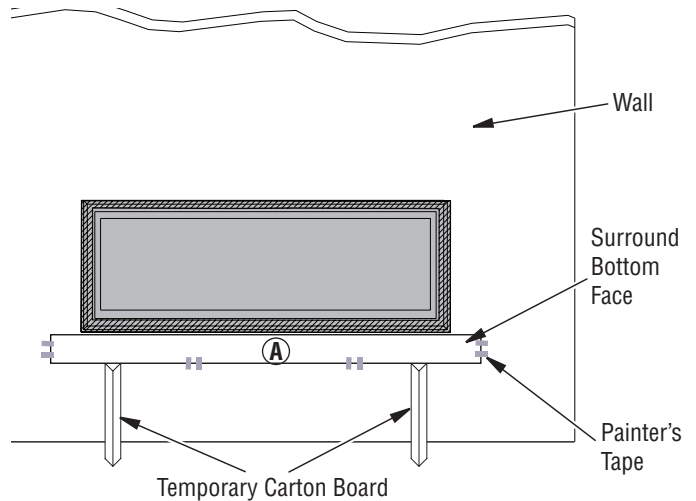

Figure 2 - Bottom Surround Face Installation
3. Install bottom surround panel centered with the fireplace onto the wall and flush with bottom edge of screen barrier (see Figure 2).
4. If additional support is needed, then wedge temporary carton board underneath bottom surround panel (A) and use painter's tape (not supplied) to hold the face to the wall. **Note:** Temporary carton board can be cut to desired length and is used to prevent surround panel from sliding down the wall while adhesive dries.
5. Install side panels (B), flush with edges of bottom surround piece and edge of screen barrier (see Figure 2).